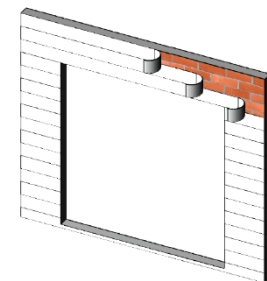

Figure 34:
4. Weather resistant building paper should be applied in a weatherboard fashion to complete the installation (Figure 34).